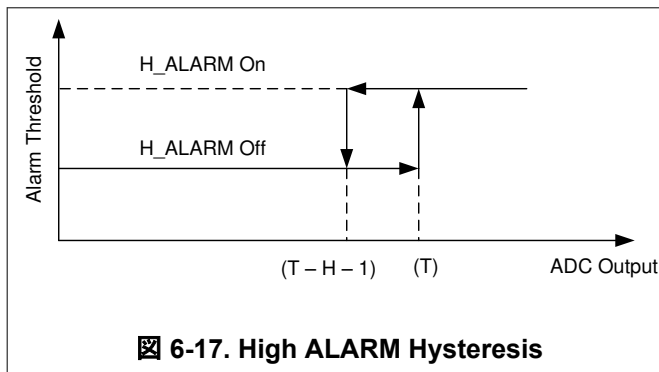

図 6-17. High ALARM Hysteresis
The device sets the input high alarm when the digital output exceeds the high alarm upper limit [high alarm threshold (T)]. The alarm resets when the digital output is less than or equal to the high alarm lower limit [high alarm (T) – H – 1]. 図 6-17 shows this function.